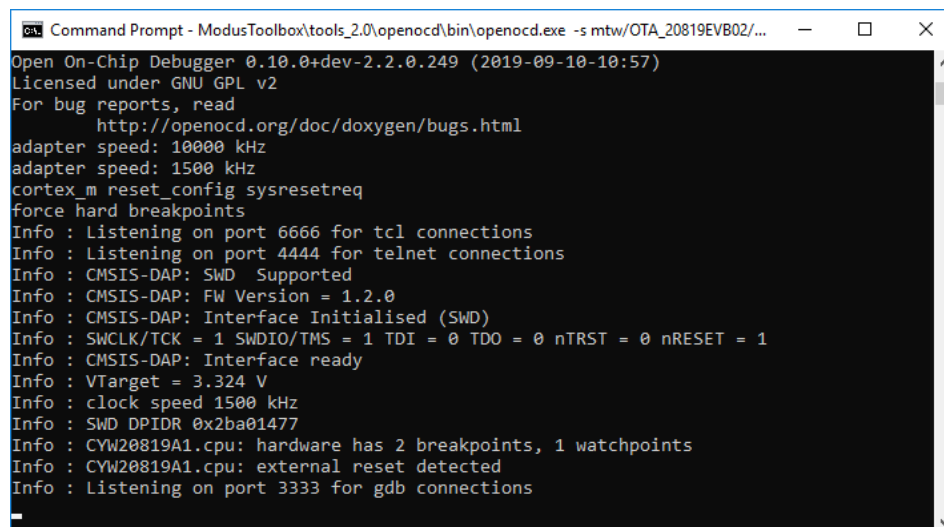

Figure 5-3. Verifying Installation
- You should see a result as shown in Figure 5-3.